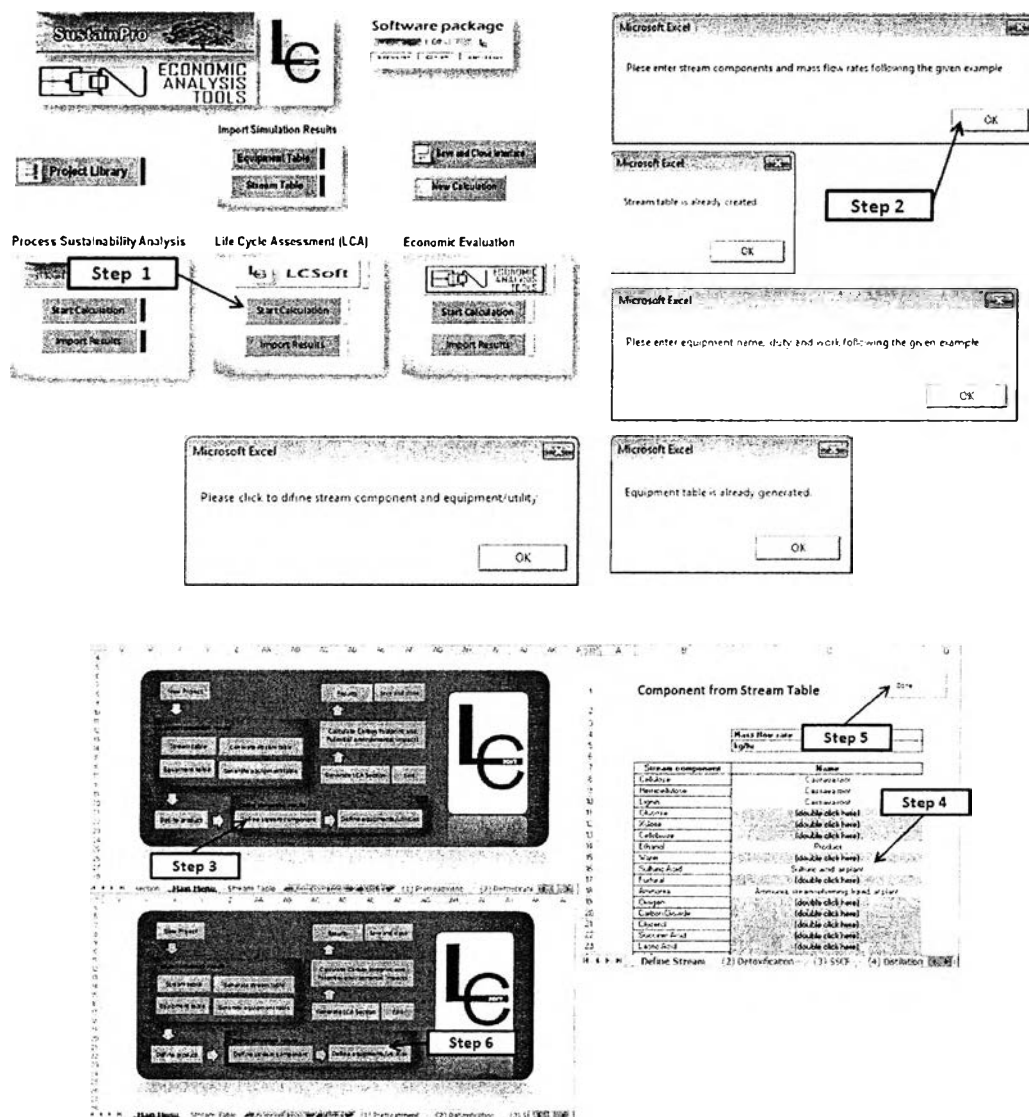

Figure B.21: Steps to perform LCA (Continued)
Step 1: Click “Start Calculation” button below “LCSoft” button (Figure B.21).